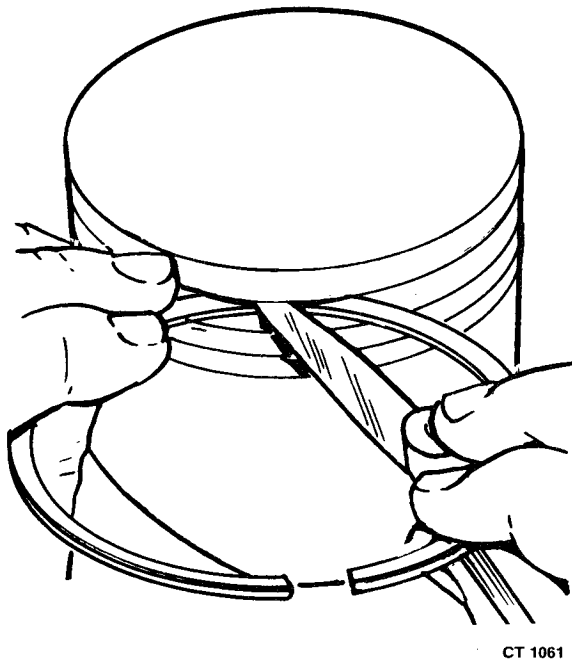

FIGURE 73. CHECKING RING LAND
**Piston Inspection:** Inspect the pistons for fractures at the ring lands, skirts and pin bosses. Check for wear at the ring lands using a new ring and feeler gauge as shown in Figure 73. Replace the piston when the side clearance of the top compression ring reaches 0.008 inch (0.20 mm).